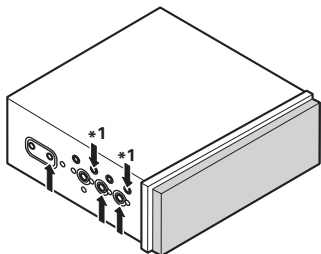
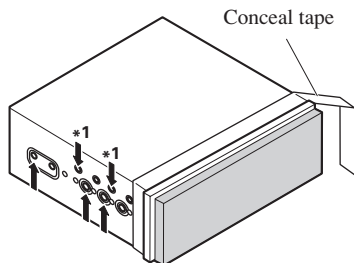
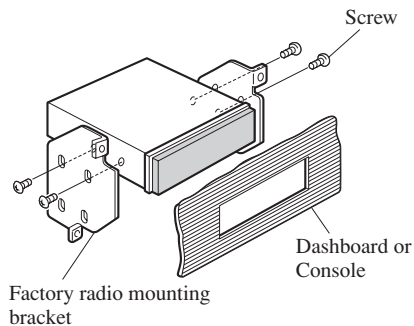

Fig. 18
Fig. 19
Fig. 20
- **Fastening the unit to the factory radio mounting bracket. (Fig. 18) (Fig. 19) (Fig. 20)**